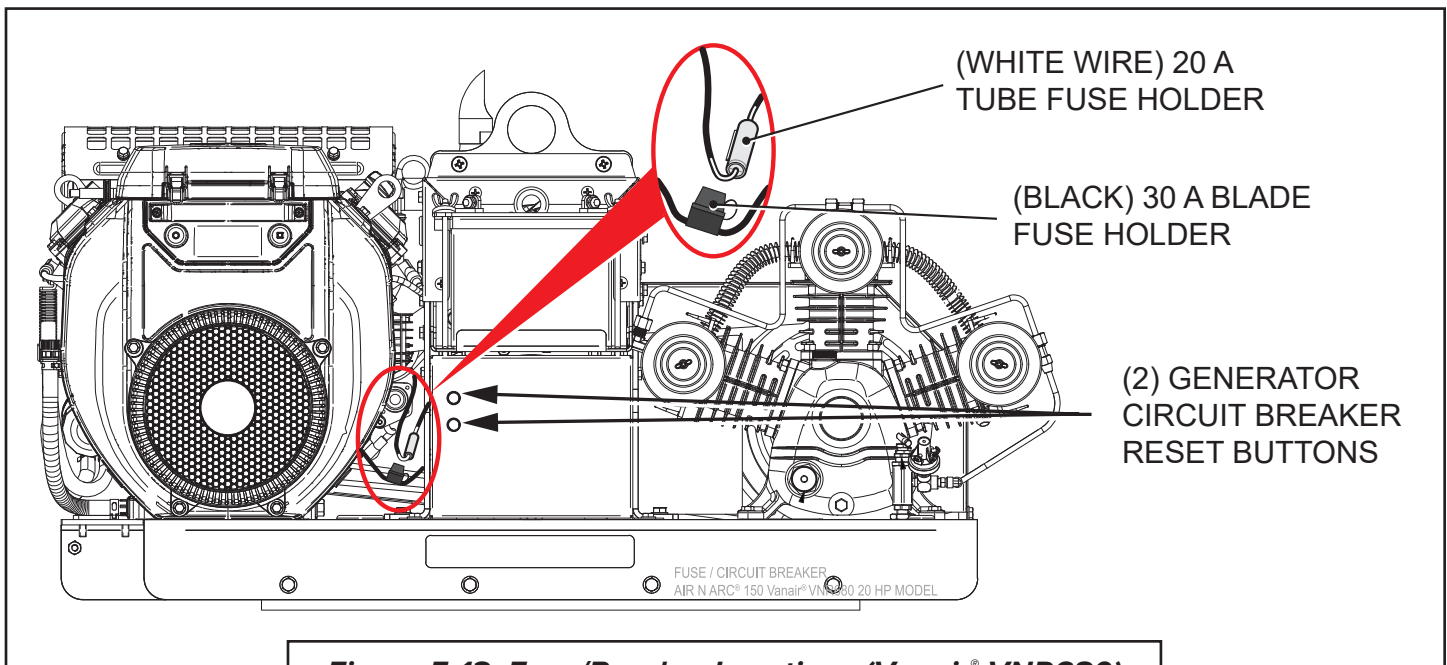
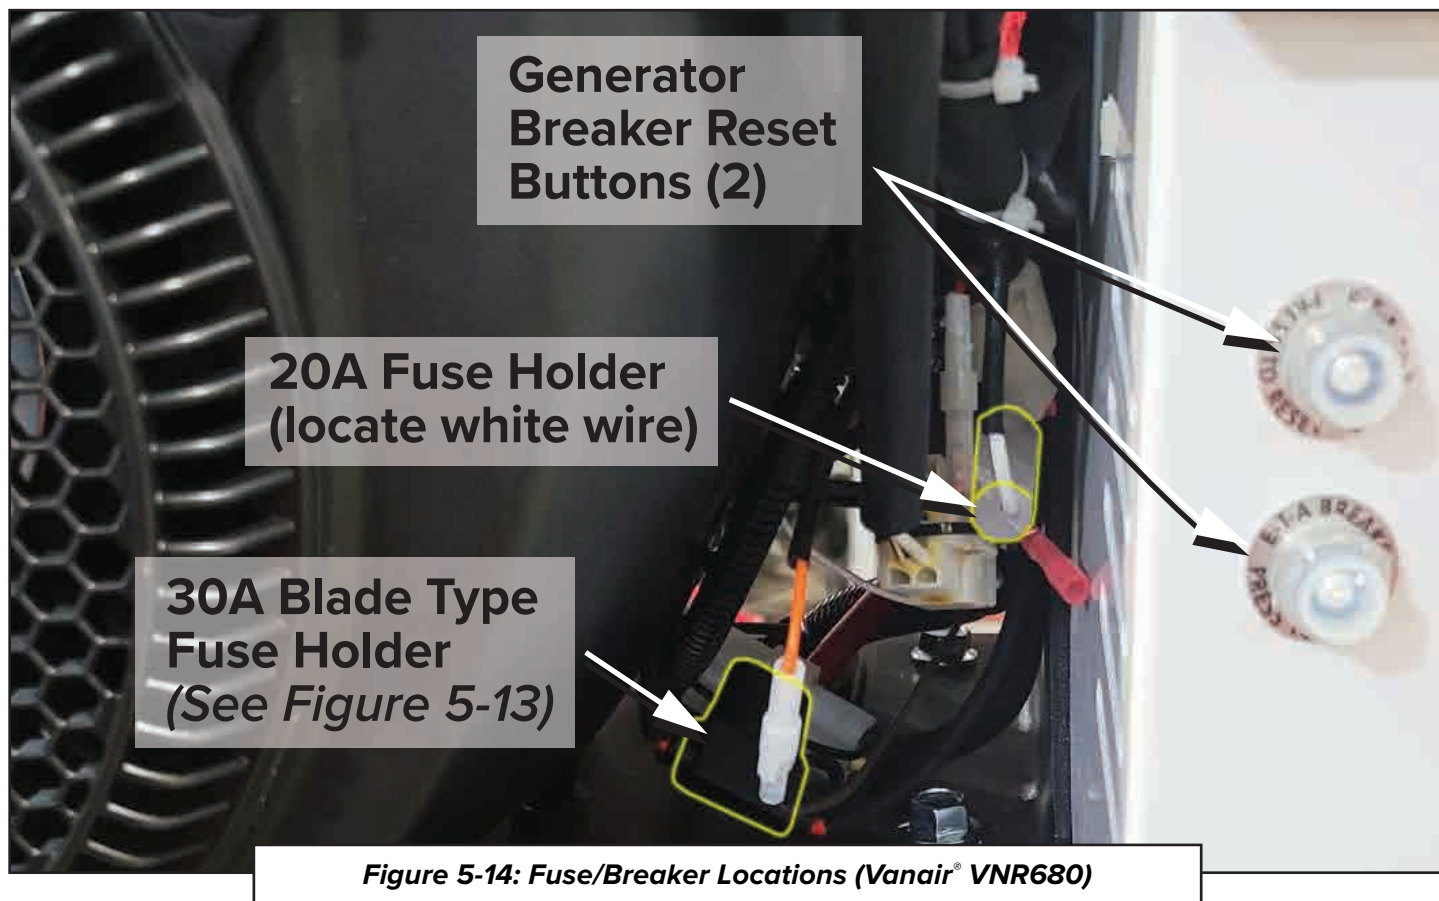

Figure 5-13: Fuse/Breaker Locations (Vanair® VNR680)
Figure 5-14: Fuse/Breaker Locations (Vanair® VNR680)
2. There are two (2) main fuses to check on the Vanair® VNR680 Engine Model. To check and change these fuses on the Vanair® VNR680 model, (Refer to **Figure 5-13** and **Figure 5-14**).
Refer to **Figure 5-14** to locate the fuse holder attached to the WHITE wire. Once located, open and check the glass fuse inside to see if the thin metal conductor inside the 20A fuse has been blown. If this has, replace with new fuse. Close the holder securely.
6. The circuit breaker reset for the generator are located on the front of the generator. (See **Figures 5-13** and **5-14**.)